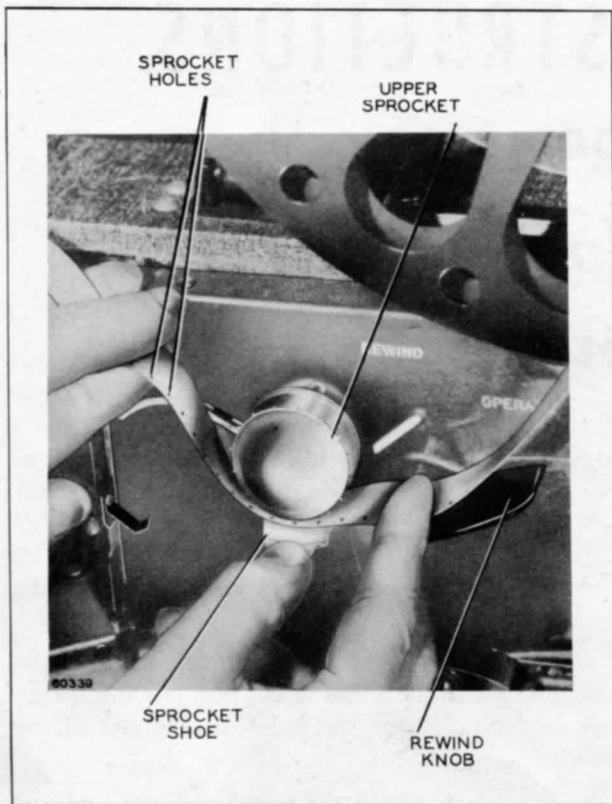

Figure 4—Threading the Upper Sprocket
c. Make sure the rewind lever (fig. 4) is in the OPERATE position.